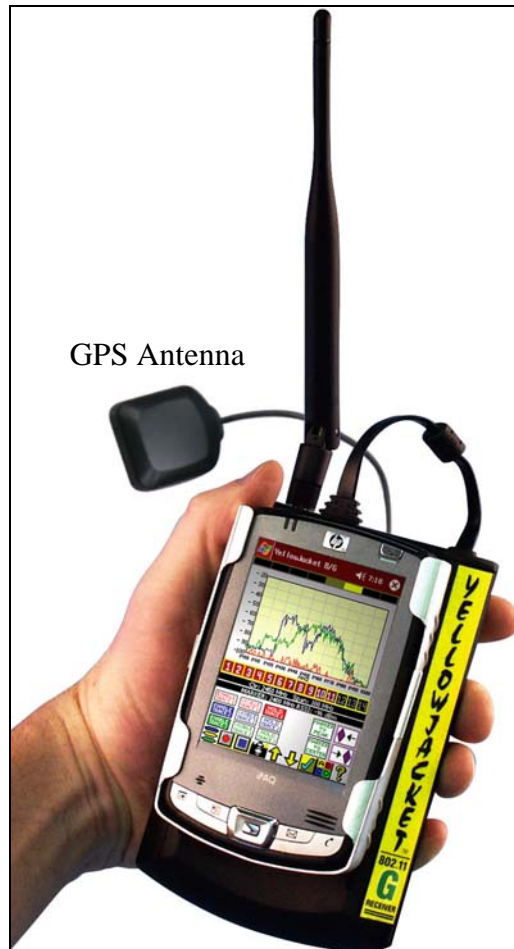

Fig. 1. BVS YellowJacket® with GPS.
Currently GPS location accuracy can be controlled within several meters and the GPS information can be updated every second. The good accuracy and high update rate make it possible to use GPS to record measurement locations in collecting measurement data. The Drone Site Survey system is composed of three parts, Drone Projector, Drone Collector, and Drone Analyzer. Drone Projector and Collector are used with the BVS YellowJacket Plus (which has a GPS module) and HP iPAQ; Drone Analyzer is PC-based software. YellowJacket measures all 14 OFDM/DSSS network channels, which operate on the IEEE 802.11b/g standard. This allows the user to determine the AP's MAC address, SSID, and RSSI signal levels for all access points on or off any 802.11b/g WISP or Hotspot. A YellowJacket with GPS module is shown in Fig.1. Based on the real measurement data collected by Drone Collector, Drone Analyzer can perform a quick analysis to estimate access point's (AP) locations, validate RF coverage, and predict coverage reliability.